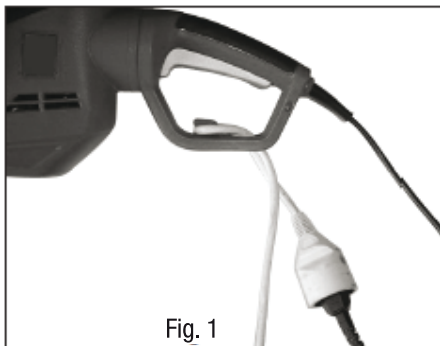

Fig. 1
- Unroll completely the cord and use the power cord hook to hang it and connect it to the machine as shown in Figure 1.